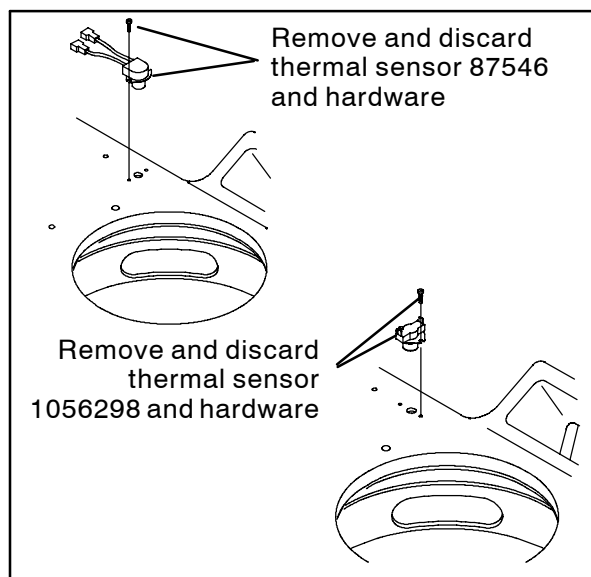

FIG. 1
2. Disconnect the main wire harness from the temperature switch (Thermo-Sentry) located on the shaker assembly top cover. Refer to Fig. 1.
- Remove the temperature switch from the shaker assembly top cover. Discard the temperature switch and hardware. Refer to Fig. 1.